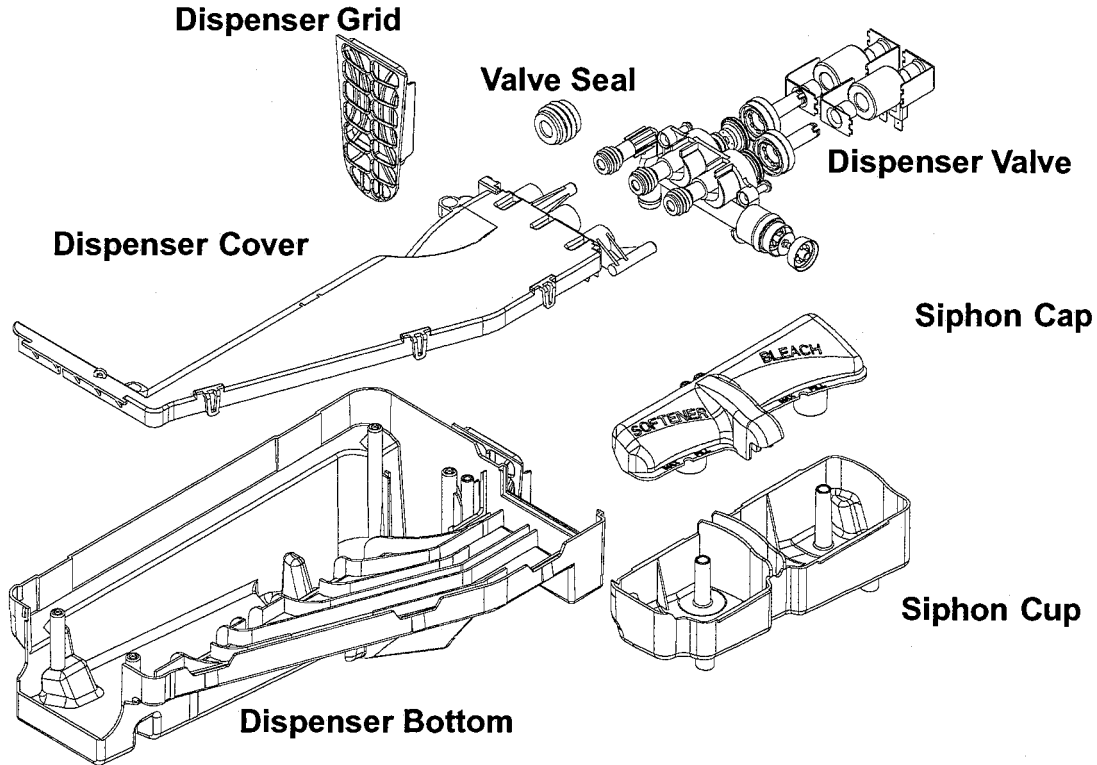

Figure 10
- New detergent dispenser system. **Figure 10**
- New machine control board with 1000 rpm capability. **Figure 10**
See Figure 10